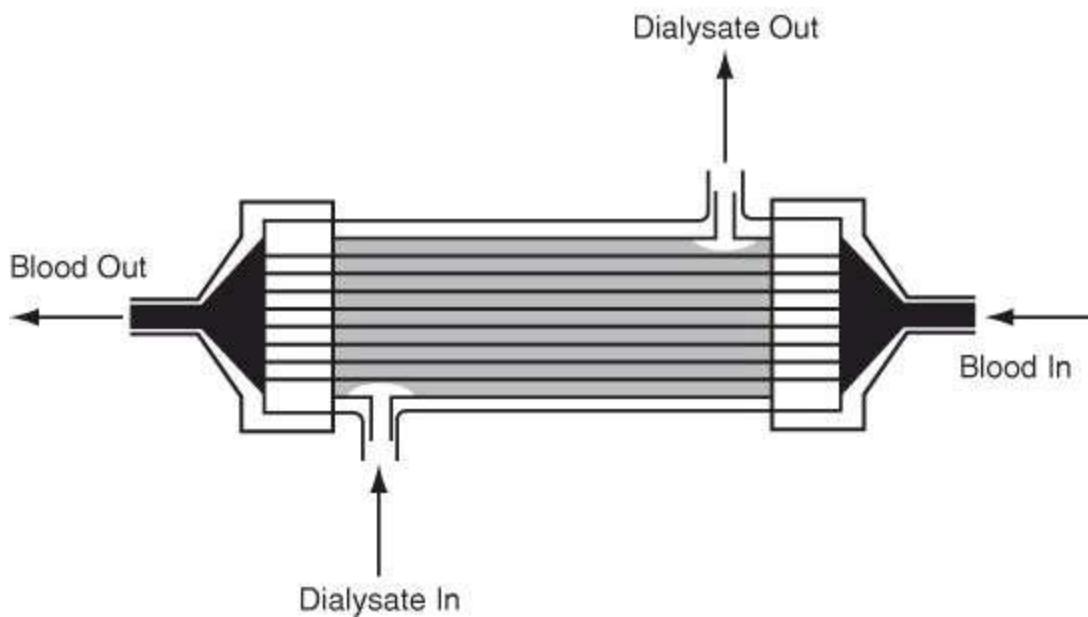

Figure P4.1.4
***4.1.4.** Figure P4.1.4 is a sketch of an artificial kidney, a medical device used to remove waste metabolites from the blood in cases of kidney malfunction. The dialyzing fluid passes